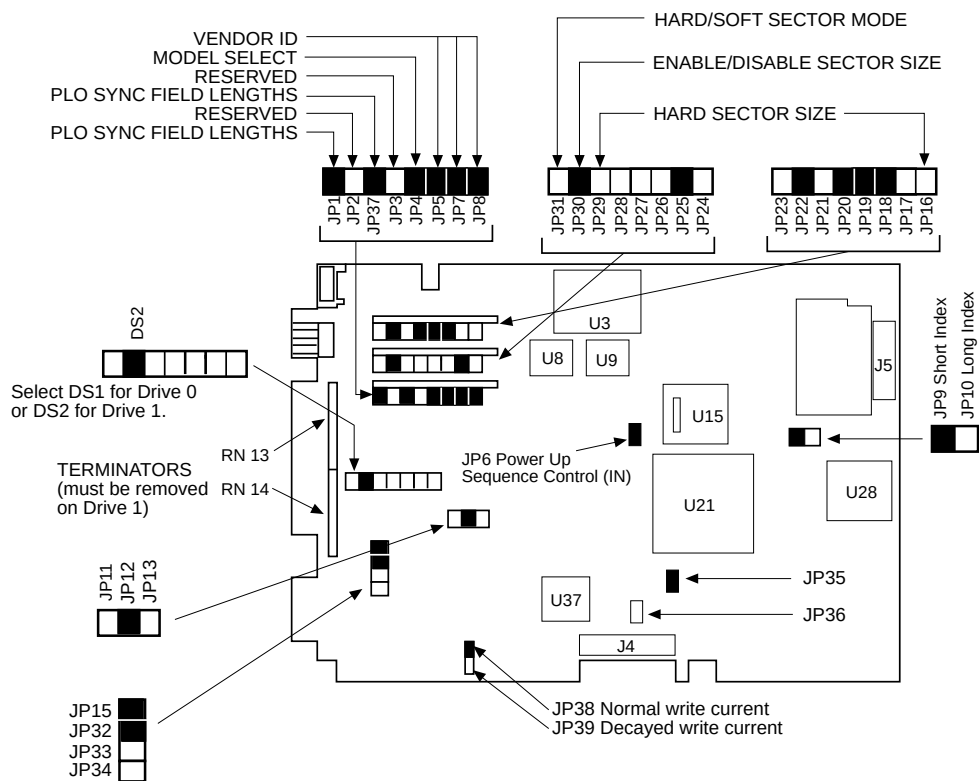

Figure A-7. Jumper Settings for ESDI Hard Disk Drive
1. Prepare the hard disk drive for installation by verifying that all jumpers are correctly positioned as shown below in Figure A-7.